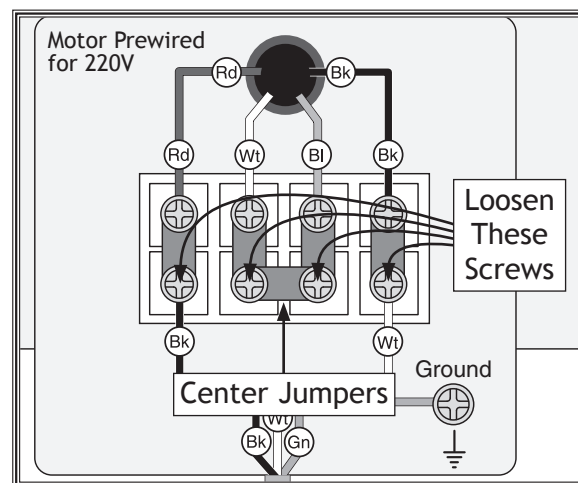

Figure 4. Locations of screws to be loosened.
2. Open the motor junction box, then loosen the four screws indicated in **Figure 4**.